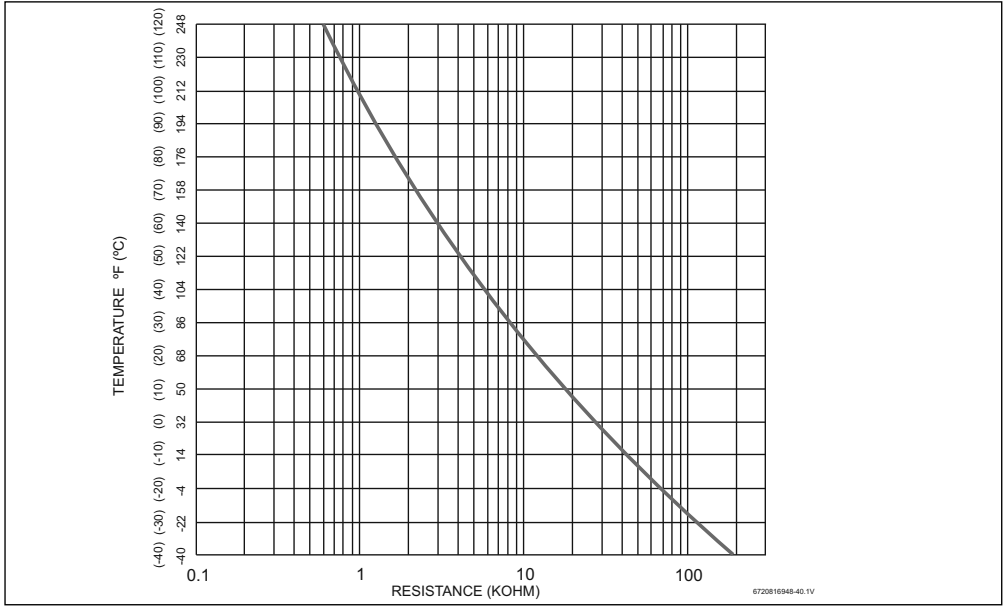

Fig. 63 Inlet, outlet and heat exchanger water temperature sensors characteristics
- 2) see temperature resistance charts in fig. 63 and 64.